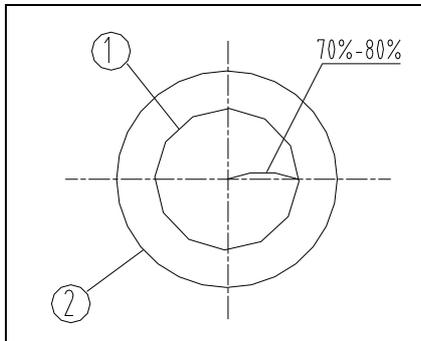

Fig. 18
2. As the contrast is usually low, rotate the diaphragm adjust ring ③ to make the arrowhead pointed to the related magnification position on condenser base ④, namely, to adjust the N.A. of illumination to 70%-80% of the N.A. of objective. The eyepiece can be taken off when it's necessary to observe from the tube.
Adjust the ring ③ until see the figure as shown in Fig. 18, to adjust the proportion (see Fig. 18&19, ① is the image of aperture diaphragm, ② is the edge of objective).